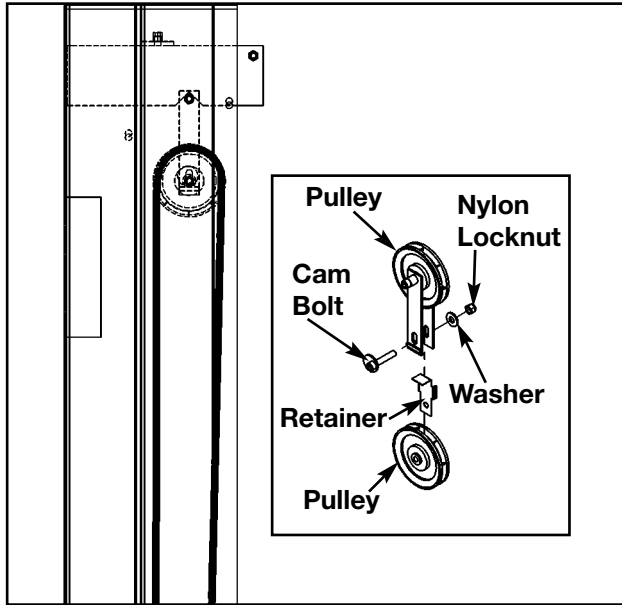

Figure 2
**2. Check tension on next cable** (see steps 2A and Figure 2).
**A.** Adjust cam bolt (if necessary) to remove excess slack. See Figure 2.